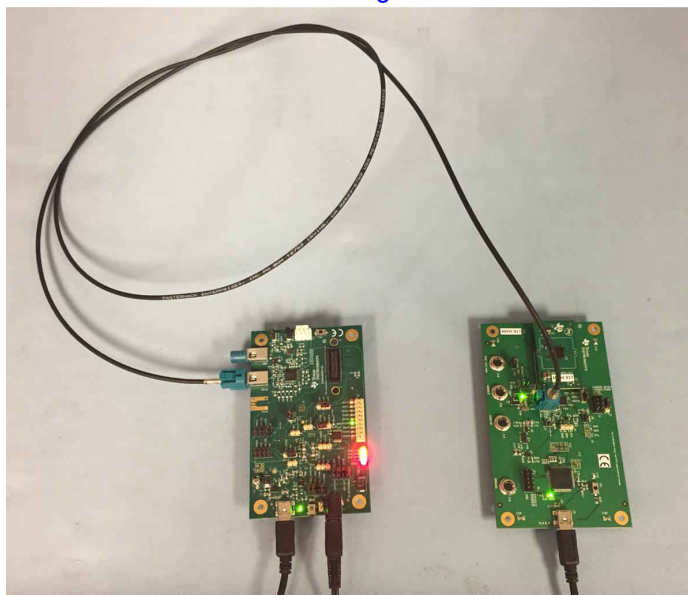

Figure 3-34. Test Setup
14. The setup should now look like what is shown in the Figure 3-34.